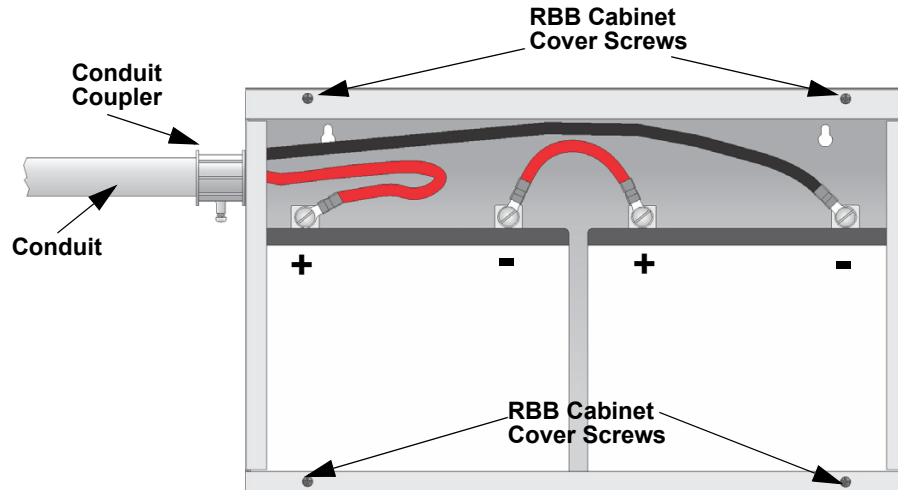

Figure 4.6 Battery Connections in the RBB Cabinet
3. Run extended battery cable from control panel cabinet through conduit to RBB cabinet. See Figure 4.6.
NOTE: Figure 4.6 is an example of how the wire connections can be routed. However, any other cabinet knock-outs (on either the main control panel or the RBB cabinet), that are not previously being used may be utilized to connect conduit between the two cabinets.
4. Connect battery leads to the backup battery terminals. See Figure 4.6. Observe the proper polarity to prevent damage to the batteries or the control panel.
5. Insert the RBB cover screws into the cover mounting holes (see Figure 4.6). Screw the cover screw 3/4 of the way into the cover mounting hole.